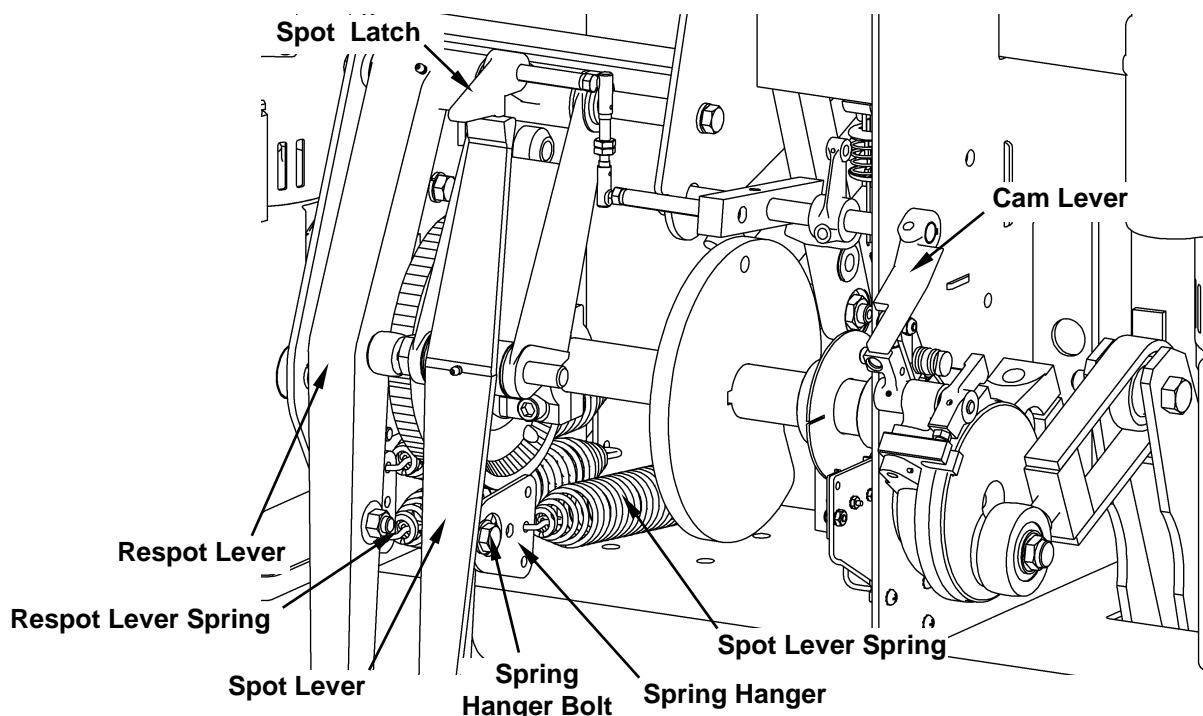

Figure 4.2-17
1. Hold the cam lever down on the table drive eccentric while holding the spot latch up (see Figure 4.2-17) and have a second person manually crank the table down.
2. Loosen the nut on the spring hanger bolt (see Figure 4.2-17) so that it is being held by just one or two threads.